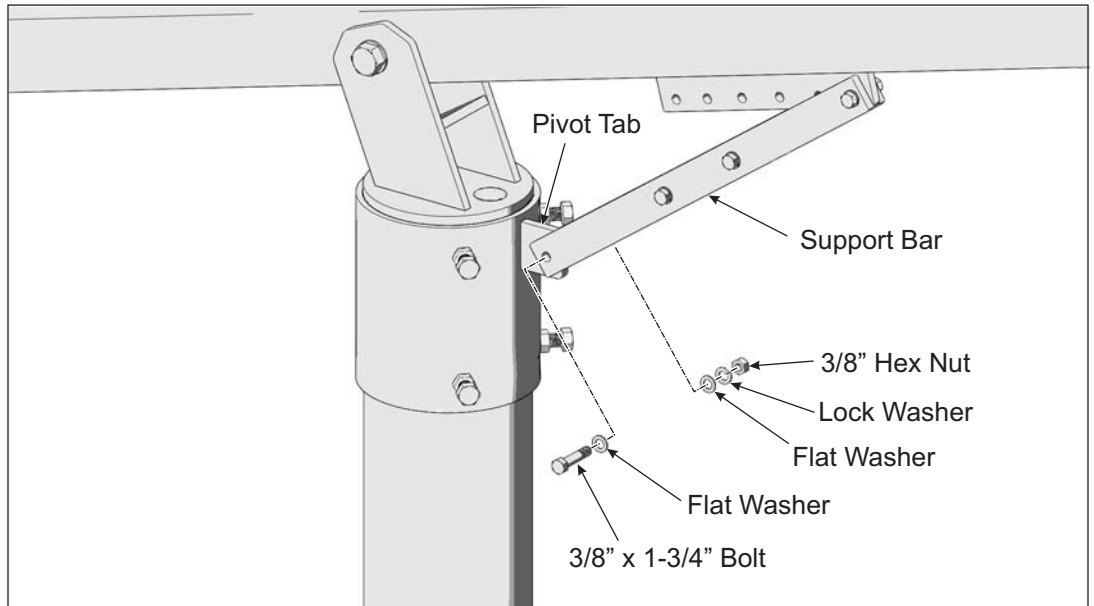

Figure 2-3: Securing Support Bar to Mounting Sleeve
- F. Pivot the Strongback and the Support Bar to align the mounting holes of the Support Bar with its Pivot Tab on the Mounting Sleeve. Slide the Support Bar over the Pivot Tab. Insert the 3/8" x 1-3/4" bolt and one flat washer through the Support Bar and Mounting Tab and secure it with the remaining flat washer, lock washer and hex nut. **Torque hardware on both ends of Support Bar at 32-34 ft.-lbs.** (See Figure 2-3)